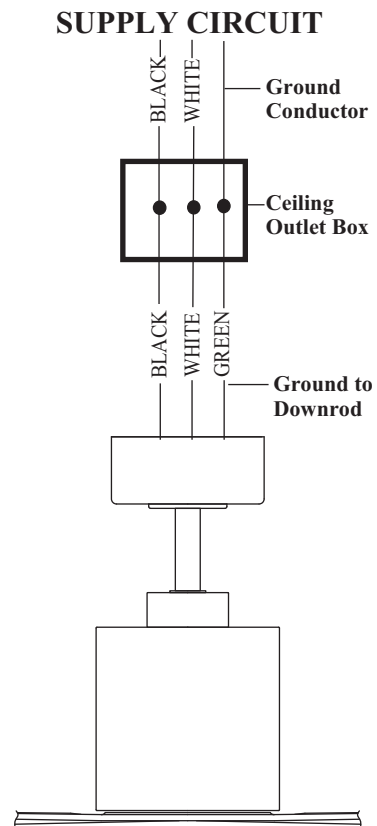

Figure 14
1. Connect the fan supply (black) wire to the black household supply wire (Conductor cable between ceiling and wall outlet box). (Fig. 14)